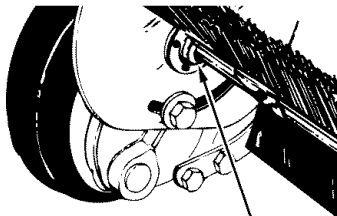

FIGURE 21
- Lubricate the brush shaft bearings twice a year with a few drops of light weight oil. See figure 21.